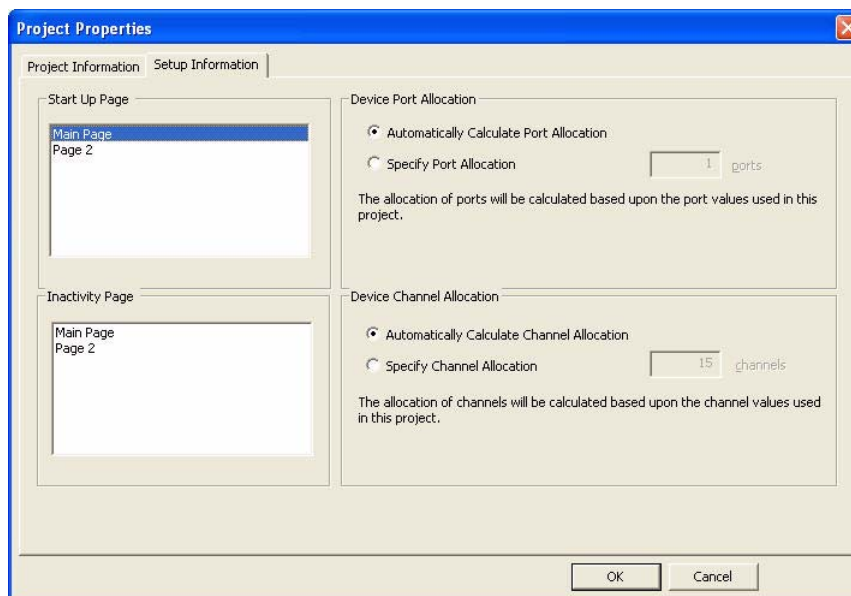

FIG. 28 Project Properties dialog - Project Information Tab
2. Open the *System Information* tab (FIG. 28). The *System Information* tab dialog sets the startup and inactivity pages for the project file as well as designating port and channel allocation methods.